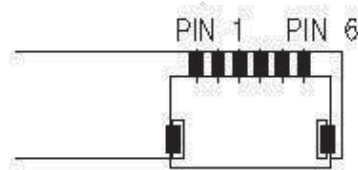

Figure1. Top View of LED Bar Connector
2. Contrast measurements shall be made at viewing angle of $\theta = 0^\circ$ and at the center of the LCD surface. Luminance shall be measured with all pixels in the view field set first to white, then to the dark (black) state. (See FIGURE 1 shown in Appendix)